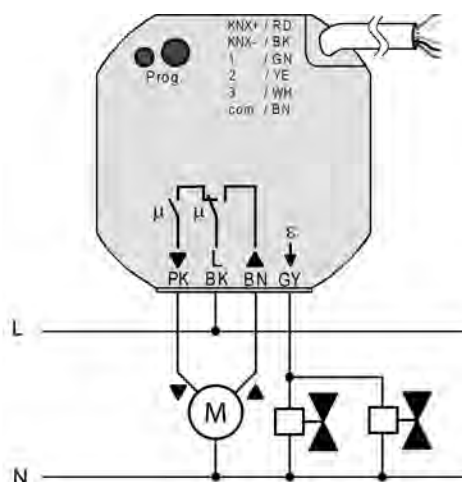

Figure 4: Connection of the mains voltage and the load
- (4) Device box (e.g. electronics box)
- (5) Partition
- (6) Series switch
- (7) Potential-free contact, e. g. window contact
- Connect the mains voltage, Venetian blind drive and electrothermal actuators using the included screwless terminals (figure 4).